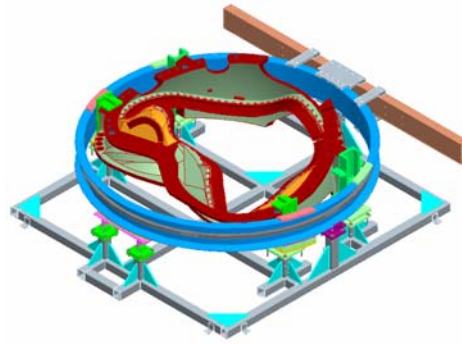

Figure 5-Install Lifting Beam
- 6.5.4 Secure the support/lifting beam to the joined MCWF and ring support [MCWFA}. (Figure 5- Install Lifting Beam)